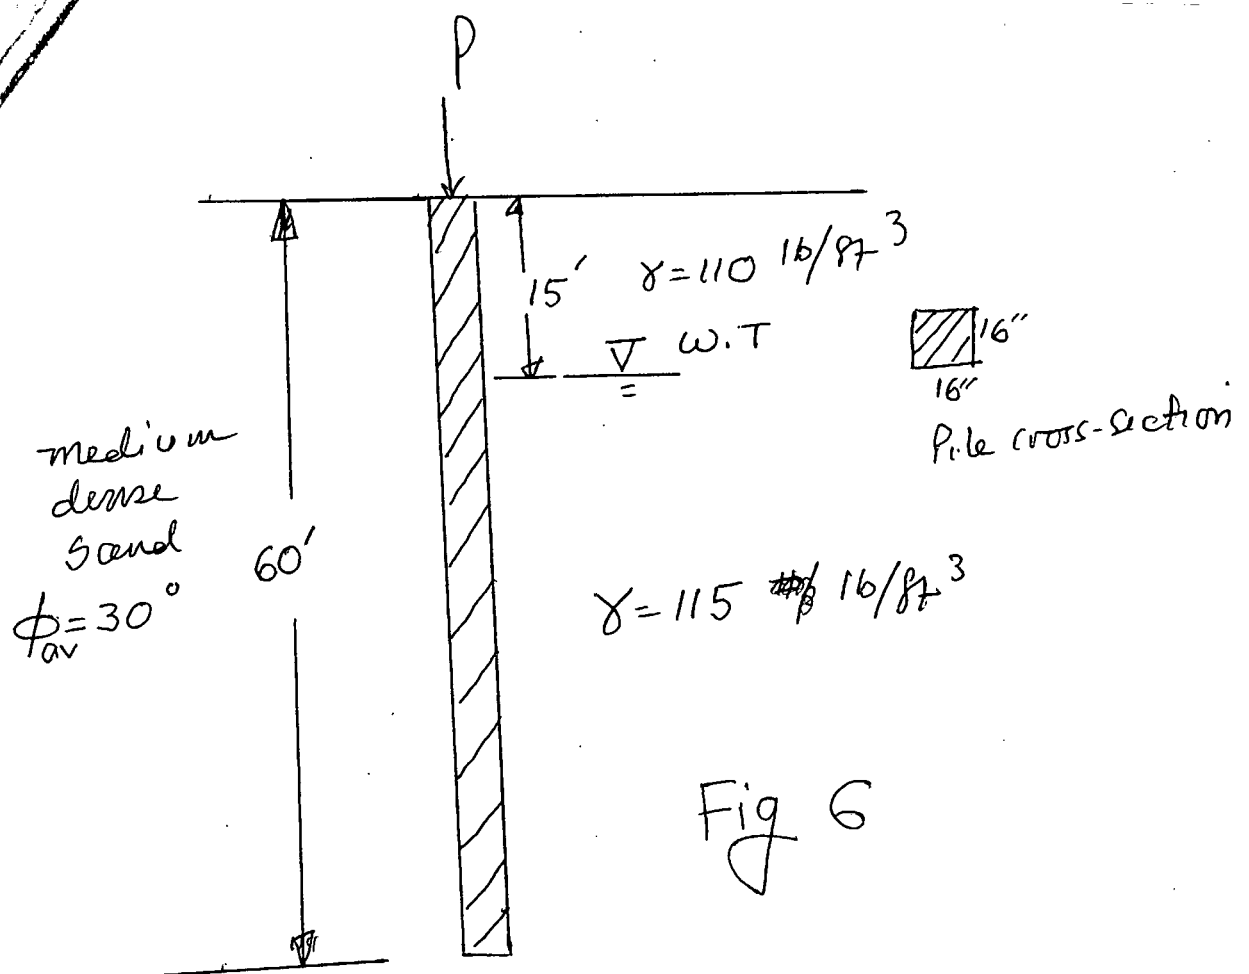

Fig 6
(b) Calculate axial load carrying capacity of a driven pile shown in Fig. 6 with a minimum factor of safety of 2.5. use Fig. 7 to solve this problem. (15)